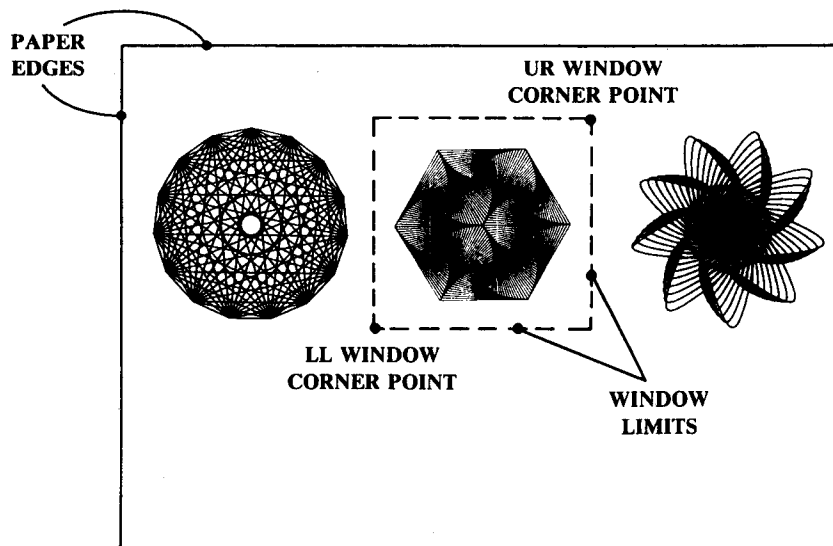
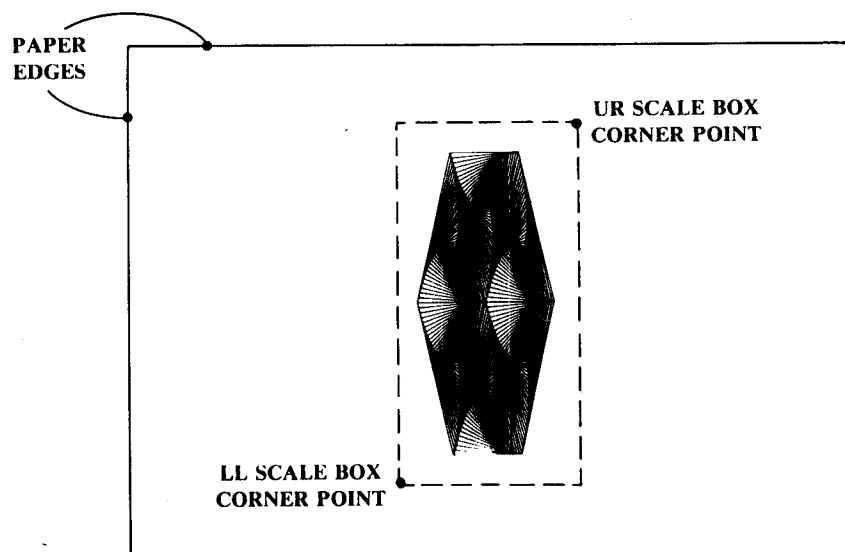
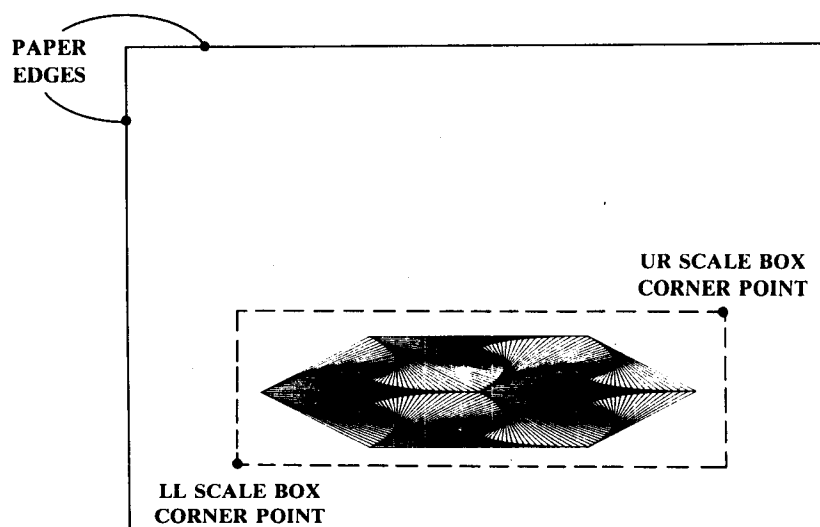
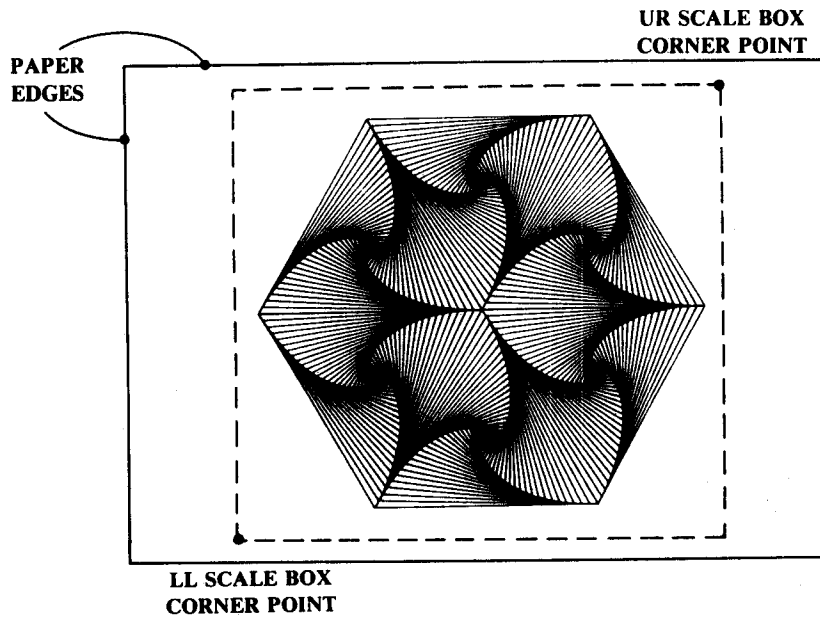

FIGURE 2-6. WINDOW LIMITS AROUND A SUBPART OF A PLOT DESIGN
FIGURE 2-7. A SCALE BOX THREE TIMES THE HEIGHT OF THE WINDOW
FIGURE 2-8. A SCALE BOX THREE TIMES THE LENGTH OF THE WINDOW
FIGURE 2-9.
The subpart of a plot design that is selected to be replotted is called a *window plot*. A window plot is created by specifying an imaginary rectangle around a subpart using two points, called the *lower left (LL) and the upper right (UR) window corner points* (see Figure 2-6). The lines of the imaginary rectangle are called *window limits*. Only the plot codes within the specified window limits are processed by the plotter when the program is rerun; thus, only the subpart (window plot) appears on the chart.
For example, if a scale box rectangle is specified the same length as the Figure 2-6 window, but three times the height, the subpart plot will appear stretched in the vertical direction when the program is rerun (see Figure 2-7). If the scale box rectangle is specified the same height as the window, but three times the length, the subpart plot will appear stretched in the horizontal direction (see Figure 2-8). If the scale box rectangle is specified three times the height and the length of the window rectangle, the subpart plot will appear three times as large (see Figure 2-9).